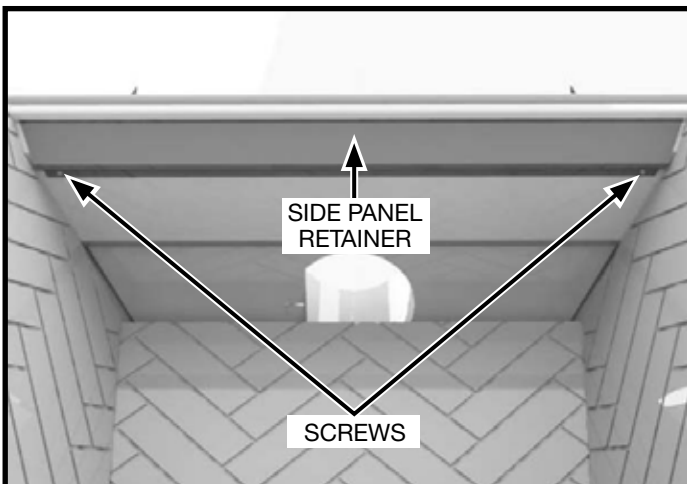
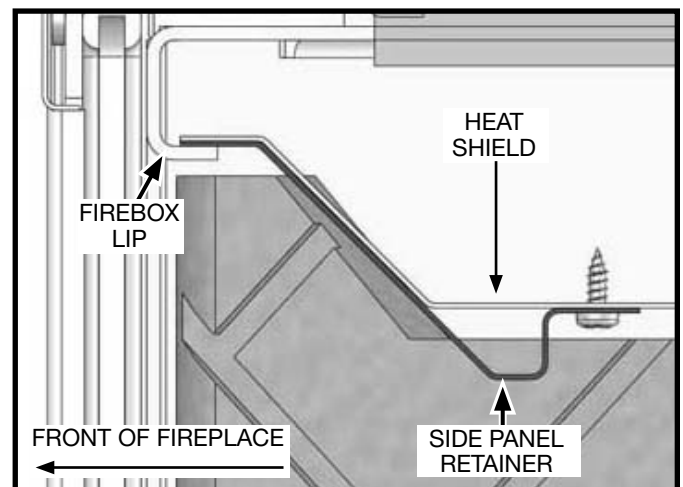

Figure 9: Side panel retainer screw location.
Figure 10: Side panel retainer.
1. Remove the Side Panel Retainer located on the underside of the firebox heat shield. The retainer is located between the lip of the firebox and the heat shield (Figure 9) and is held in place by two screws which are screwed into the heat shield (Figure 10).